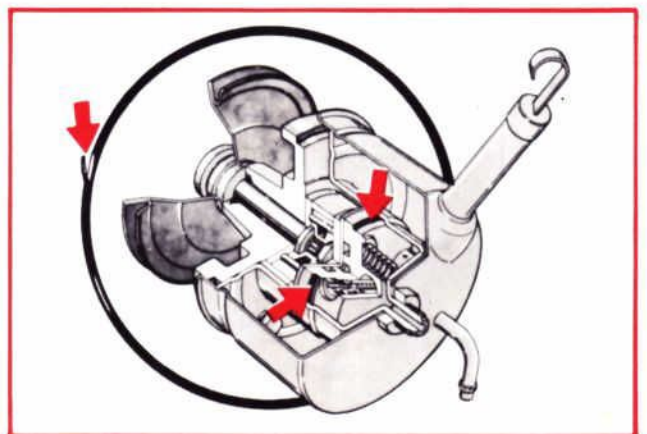

Figure 18—Low Pressure Leak at Housing-to-Valve and Cover Assembly
- If the housing-to-valve and cover assembly seal (figure 18) is improperly assembled, damaged or omitted, oil will leak from the high pressure chamber into the inlet